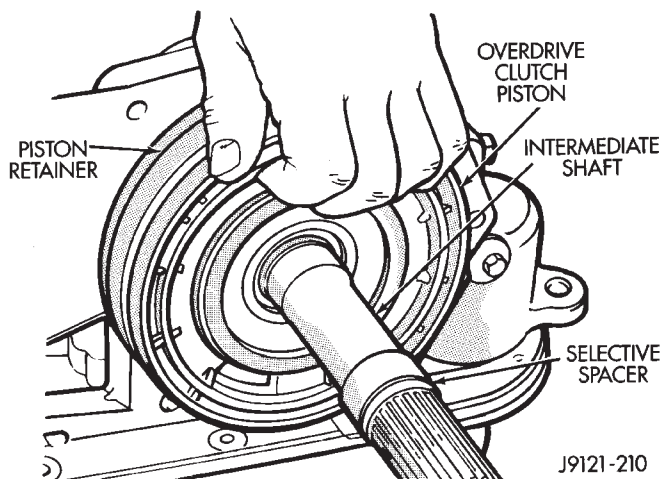
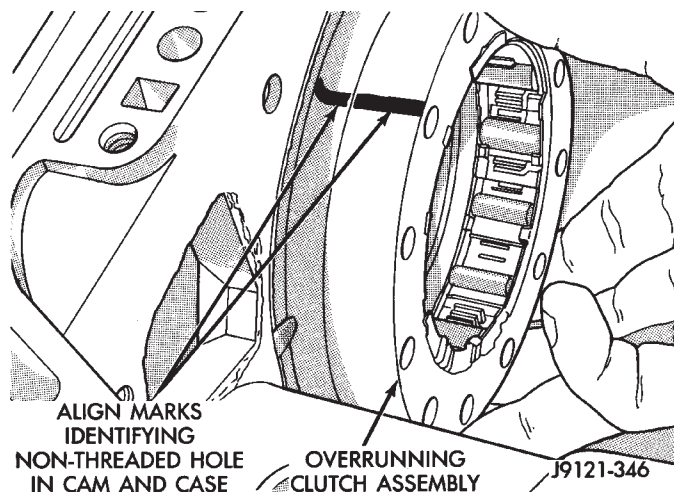

Fig. 127 Overdrive Piston Removal
Fig. 128 Overrunning Clutch Cam Removal
- (1) Remove the overdrive piston (Fig. 127).
- (2) Remove the overdrive piston retainer bolts.
- (3) Remove overdrive piston retainer.
- (4) Remove case gasket.
- (5) Mark the position of the overrunning clutch cam in the case (Fig. 128).
- (6) Remove the overrunning clutch cam bolts.
- (7) Remove the overrunning clutch cam.